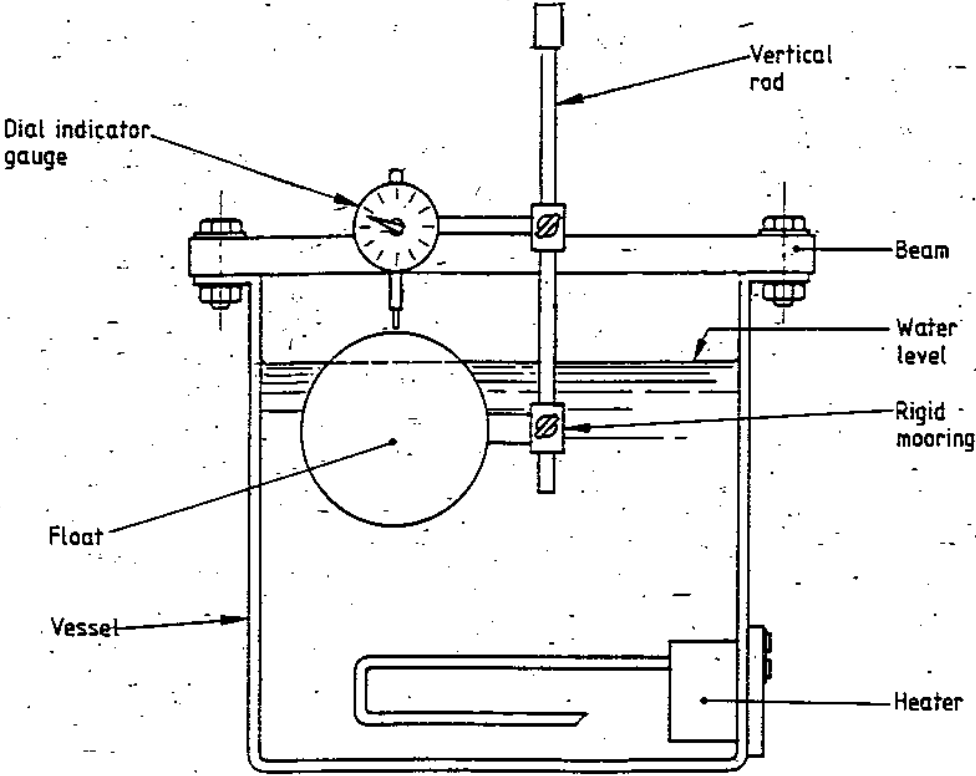

Figure 1. Deflection test rig
The apparatus is illustrated in Figure 1. The following is required.
- (1) Set up the float to be tested in accordance with setting-up procedure IGN 1-50-73 and as shown in Figure 1.
- (2) Secure the clamping screw onto the vertical rod so that the float is almost entirely submerged and the tip of the dial indicator plunger is 12mm above the surface of the water.
- (3) After a period of 5 mins \pm 10 secs, set the dial gauge to zero.
- (4) Heat the water in the vessel to a temperature of $93 \pm 5^{\circ}\text{C}$, for grade H (red) or $30 \pm 5^{\circ}\text{C}$ for grade (blue) floats.
- (5) Maintain the temperature for 120 ± 5 mins and then observe the deflection indicated by the dial gauge.